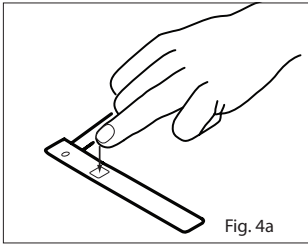

Fig. 4a
2. Refer to Fig. 4a. Direct the sensor cable so that it runs along the top of the hand. Position the detector on the fleshy part of the finger. Alternatively, the sensor may also be applied to the toe (not shown).